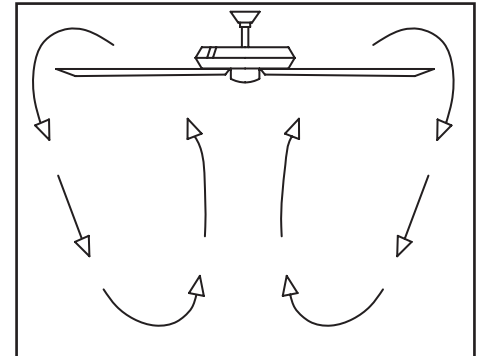

Figure 18
**Cool weather** - (Reverse) An upward air flow moves warm air off the ceiling as shown in Figure 18. This allows you to set your heating unit on a lower setting without affecting your comfort.